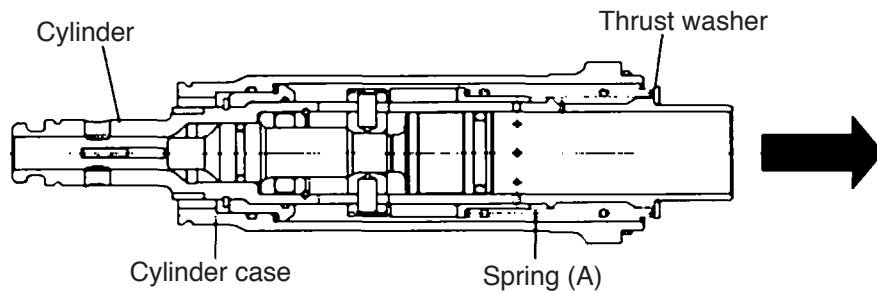

Fig. 11
Remove the Seal Lock Hex. Socket Hd. Bolts M6 x 22 [10] fixing the Cylinder Case [9], then the Cylinder Case [9] can be removed from the Crank Case [46], and the Thrust Washer [25] and Spring (A) [22] can be removed between the Crank Case [46] and the Cylinder Case [9] (Fig. 11).